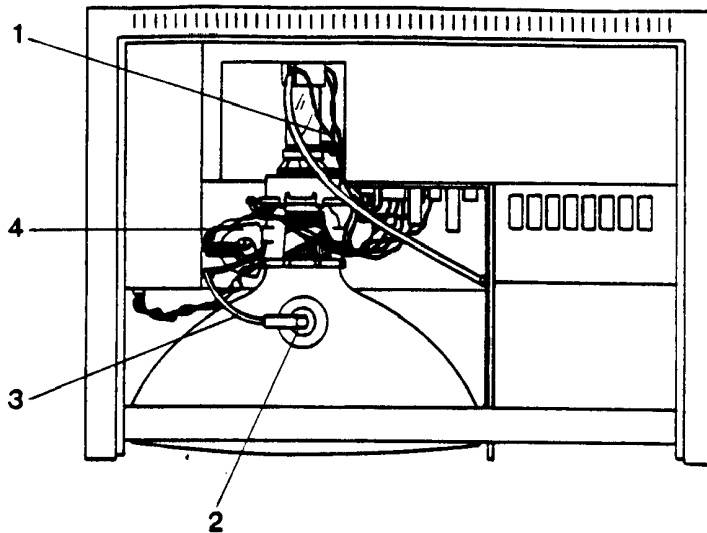

FIGURE 1
Normally the anode aperture has a connector plugged into it (Figure 1, #2). When a CRT is replaced, the anode connector is removed, exposing the anode. The anode can maintain a charge of several thousand volts (even after the power is off).
1. The yoke wires (Figure 1, #1)
2. The anode connector (Figure 1, #2)
3. The anode wire (Figure 1, #3)
4. The flyback transformer (Figure 1, #4)